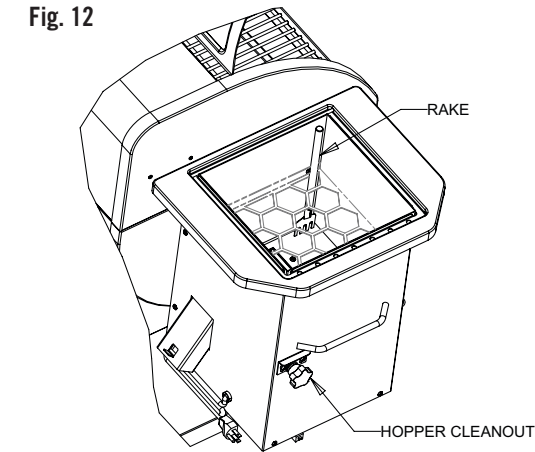

Fig. 12
- 6. Store the rake in the corner of the hopper as shown in Fig.12.